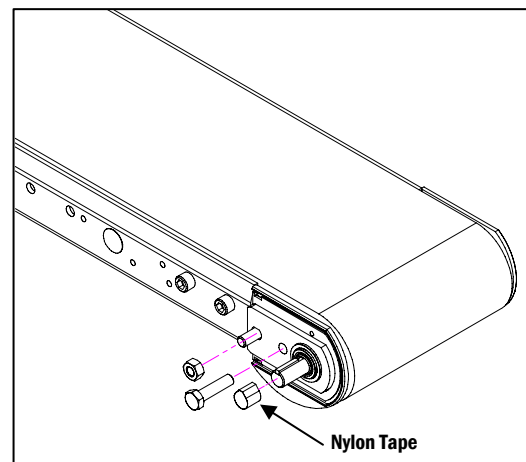

Figure 1
① Prepare the conveyor
a. Remove the 5/16-18 Hex Nut and the 1/2" Hex Head Cap Screw using a 1/2" Wrench (**Figure 1**).